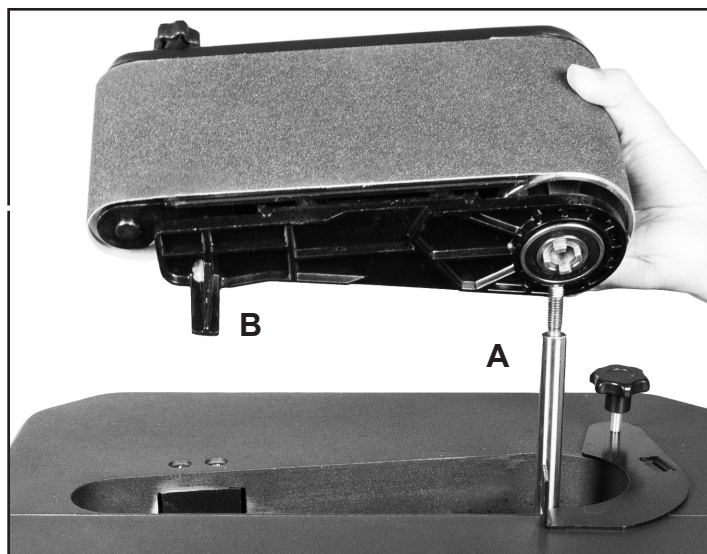

FIG. 5
4. Install the Sanding Belt Attachment by sliding the unit over the drive spindle (FIG. 5, A), and insert its lower 'T' Stud into the table's 'T' groove provided for this. (FIG. 5, B).